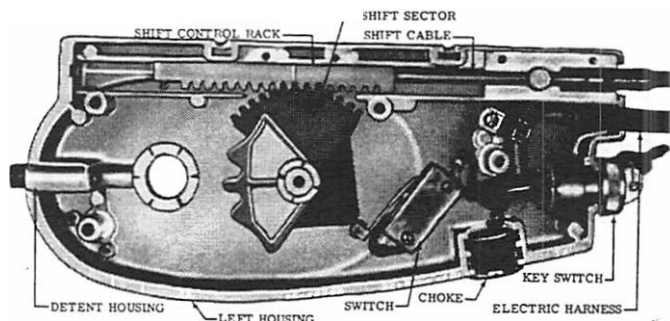

Figure 3. Shift Sector, C-29564-S Cables
1. Place alignment mark of gear shift rack in line with mark (dot) on tooth of shift sector. (Figure 3)
2. Move shift sector to position (Figure 3) for assembly of control halves.